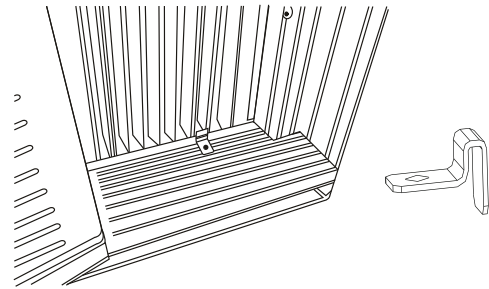

Fig.18C
3. Attach the Lock Frames to the window sill using two 3/4" (19mm) screws (Fig.18C) (on some models)